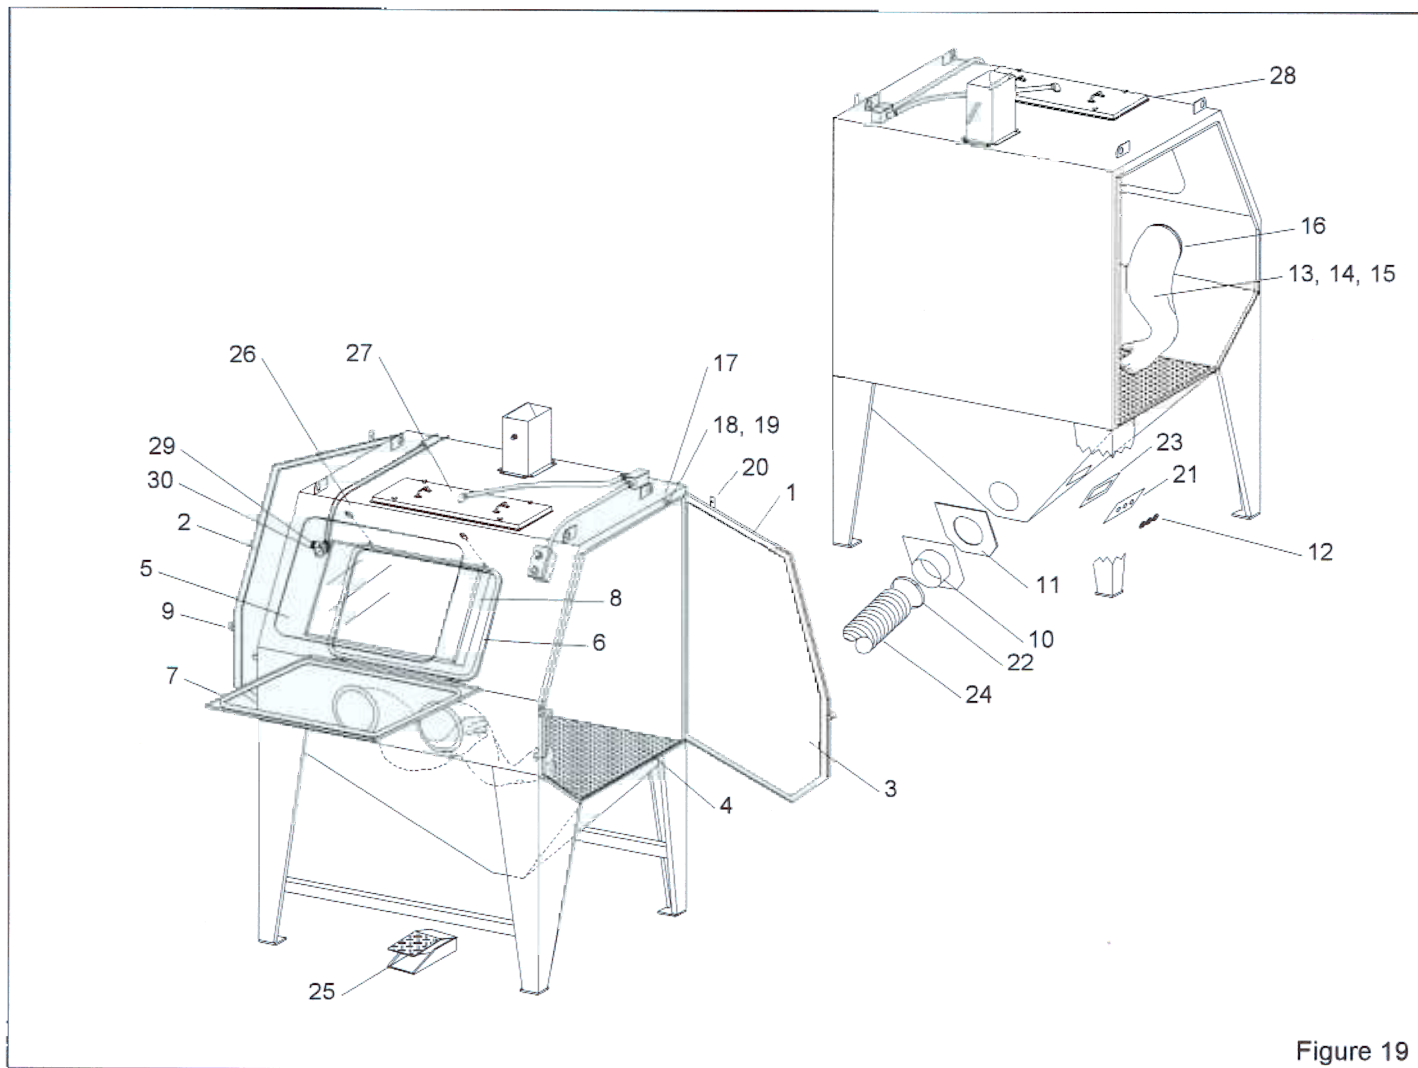

Figure 19
9.6 Cabinet Assembly, Figure 19